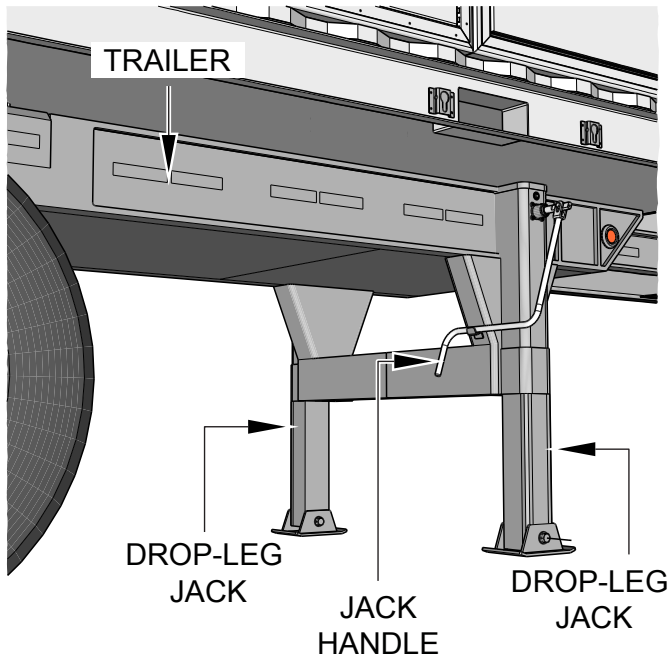

Figure 13. Drop-Leg Jack
1. Rotate the jack handle counterclockwise (Figure 13). This will slowly retract the jack and transfer the weight of the trailer to the towing vehicle. Continue retracting the jack to its fully-retracted position.